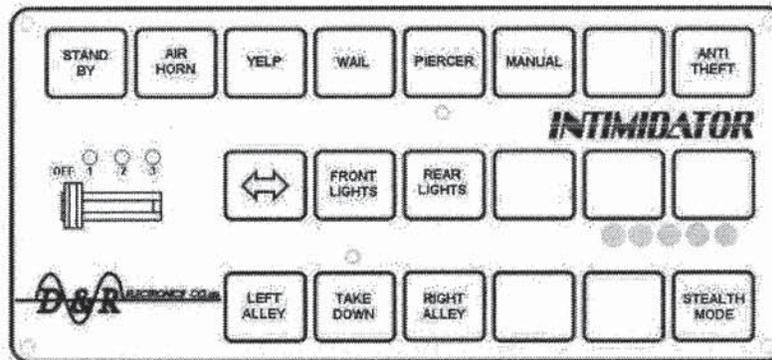

Figure 13 – D&R Electronics – Intimidator Controller
- a. Siren buttons: "manual", "stand-by", "air horn", "piercer", "wail", "yelp", and "hi-lo" (if this siren tone is available). Function assignment for buttons **shall** follow the layout examples in *Figures 13 to 14*;
- (1). **Position 1:** All rear-mounted police lights activated (hide-away, rear tail lights flasher, rear visor / traffic director on warning mode, deck lights) and all intersection lights activated;
- (2). **Position 2:** All front-mounted police lights activated (hide-away, wig-wag, grille lights and front visor) and all intersection lights activated; and
- (3). **Position 3:** All police lights activated (including roof light bar, front visor, and rear visor / traffic director on warning mode);
- (1). Press one time: Move traffic to the left;
- (2). Press a second time: Move traffic to the right; and
- (3). Press a third time: "Warning" mode.
20. Function assignment for all buttons and switches on the emergency equipment controllers **shall** follow the layout examples in *Figures 13 to 14*.
- a. *D&R Electronics – Intimidator, model F3.3150S (see Figure 13 for configuration);*